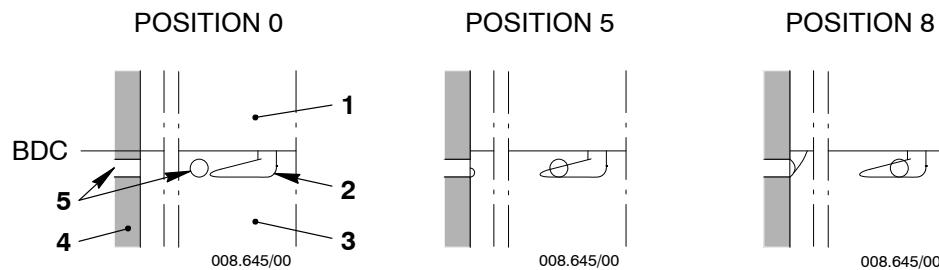

Fig. 3: Control Grooves of Pump Plunger
When the pump plunger (18) passes BDC, fuel flows through the two inlet bores (5, Fig. 3) and the two control grooves (2) into the plunger chamber (1). The quantity of fuel that goes into the plunger chamber (1) is related to the control position (between 0 for zero supply and 10 for maximum supply).